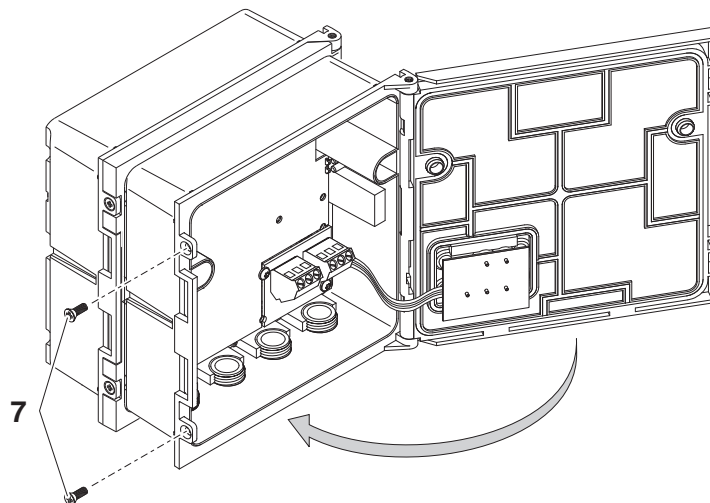

Fig. 3-8 Closing the enclosure (variant 1)
9	Close the lid of the front MIQ module and fix it with the two countersunk screws (pos. 7 in Fig. 3-8).